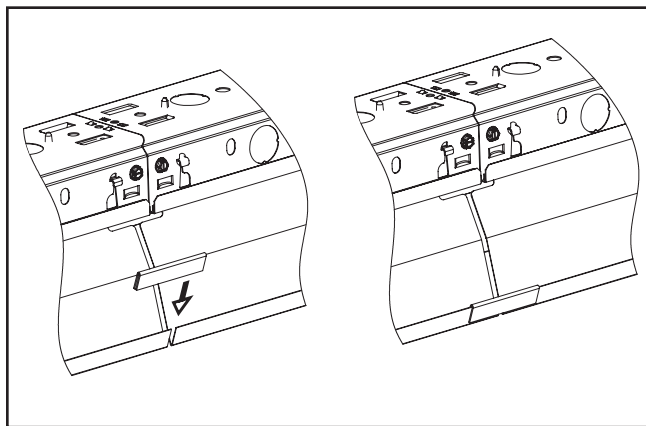

Figure 5.
5. When applicable, align reflectors of adjoining fixtures using row aligners as shown. (Figure 5.)